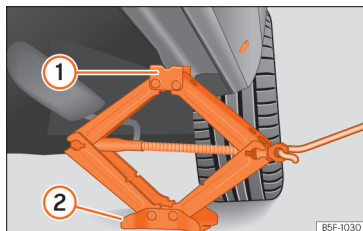

Fig. 191 Crossbar: mounting the jack on the vehicle.
- Turn the jack crank handle, located below the strut support point, to raise it until the tab ① >>> Fig. 191 is below the housing that is provided.
- Align the jack so that the tab ① "grips" onto the housing provided on the cross member and the mobile base ② is resting on the ground. The base plate ② should fall vertically with respect to the support point ①.